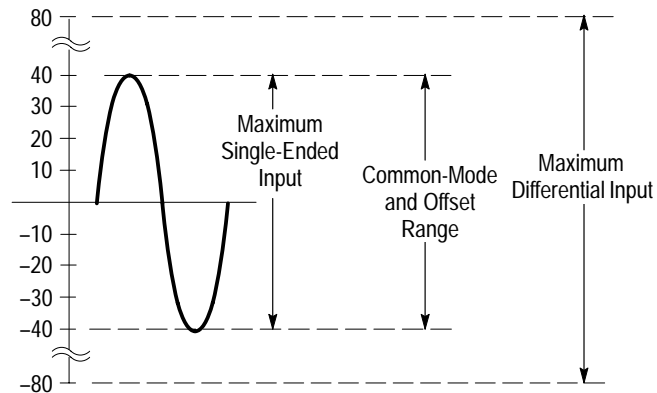

Figure 8: Input and Offset Range for X 0.1 Gain
The amount of differential, common-mode, and offset range depends on the gain setting. Figures 8 through 11 beginning on page 17 show the common-mode, differential, and offset range for each gain setting of the preamplifier.
2. Preset the **GAIN** switch of the preamplifier and the volts/division switch of the oscilloscope to the appropriate settings based on the amount of offset you expect to measure. See Figures 8 through 11. (Select a lower gain setting if you are unsure of the amount of the offset.)